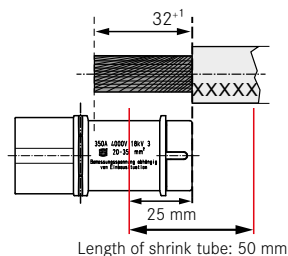

Figure IV-9: Shrink tube assembly over the cable and contact for Han® HC Modular 350
- ① Strip the cable according to Figure IV-9 and IV-10, so that the stripped *stranded wire* can be inserted fully into the contact.
- ② Terminate the cable to the torque specified for the wire gauge (see Table IV-2, p. 32):
- ④ Pull the shrink tube as shown in Figure IV-9 and IV-10 (red lines!) over the contact and shrink.